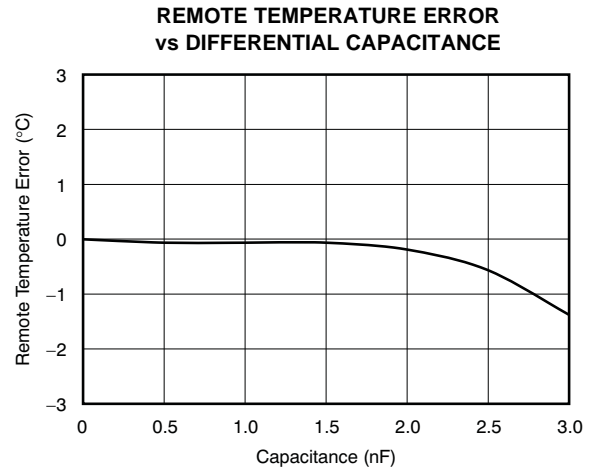

Figure 6.
(3)  $C_{\text{DIFF}}$  (optional) should be  $< 1000\text{pF}$  in most applications. Selection of  $C_{\text{DIFF}}$  depends on application; see the Filtering section and Figure 6, Remote Temperature Error vs Differential Capacitance.
- (1) Diode-connected configuration provides better settling time. Transistor-connected configuration provides better series resistance cancellation.
- (2)  $R_S$  (optional) should be  $< 1.5k\Omega$  in most applications. Selection of  $R_S$  depends on application; see the Filtering section.
- (3)  $C_{DIFF}$  (optional) should be  $< 1000pF$  in most applications. Selection of  $C_{DIFF}$  depends on application; see the Filtering section and Figure 6, Remote Temperature Error vs Differential Capacitance.
- (4) TMP422 SMBus slave address is `1001 100` when connected as shown.
The TMP421/22/23 tolerate differential input capacitance of up to 1000pF with minimal change in temperature error. The effect of capacitance on sensed remote temperature error is illustrated in Figure 6, *Remote Temperature Error vs Differential Capacitance*.